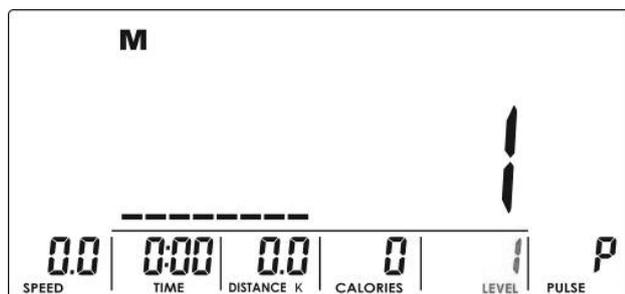

Figure 10
- (1) Select a training programme with the UP or DOWN buttons. Select P01, P02, P03, etc. and confirm your settings with MODE/ENTER.
- (2) Set the intensity level with the UP or DOWN buttons (fig. 10). The default value is 1.
- (3) Enter the time with the UP or DOWN buttons.
- (4) Press START/STOP to start the training. During the training, the intensity level can be adjusted with the UP or DOWN buttons.
- (5) Press START/STOP to pause the training. Press RESET to return to the main menu.